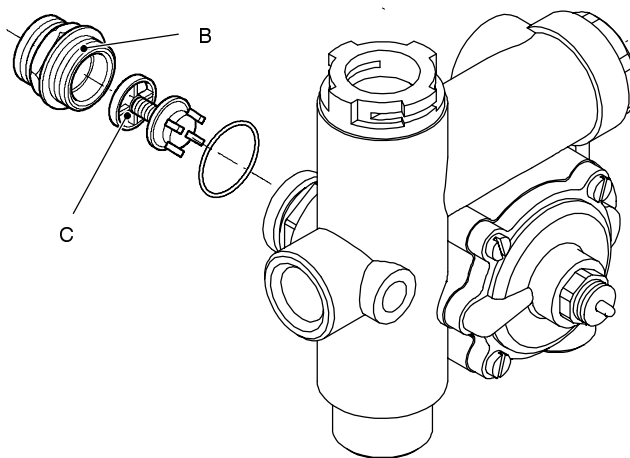

Fig. 66
- 4 Unscrew the connector *B* and remove the by-pass valve *C* (Fig. 66).
- 5 Reassemble the by-pass valve as illustrated in Fig. 66 reversing the order of removal.